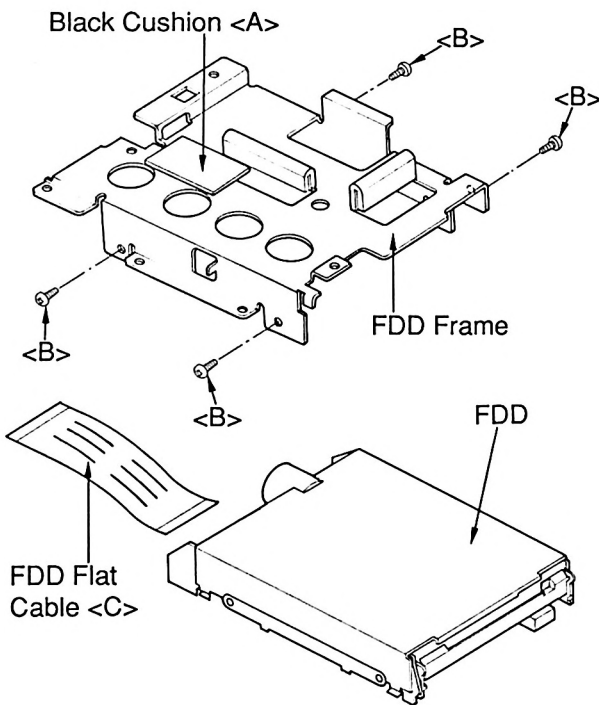

Figure 17
- (3) Gently peel off the black cushion <A> from the FDD frame as shown in Figure 17 and save it for the next use.
- (4) Remove four screws ($3\varnothing\times 6$) from the FDD frame as shown in Figure 17.
- (5) Detach the FDD flat cable <C> from the FDD.
Note: When connecting the FDD flat cable to the FDD, be sure the surface marked with the name of the cable manufacture is facing upward as shown in Figure 17.